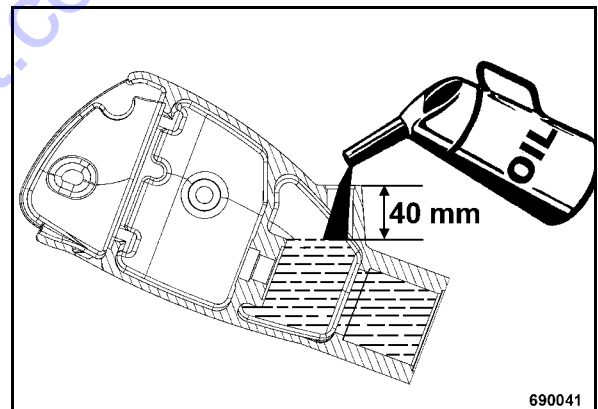

Fig. 67
- Fill in hydraulic oil to approx. 40 mm below the edge of the filler opening (Fig. 67).